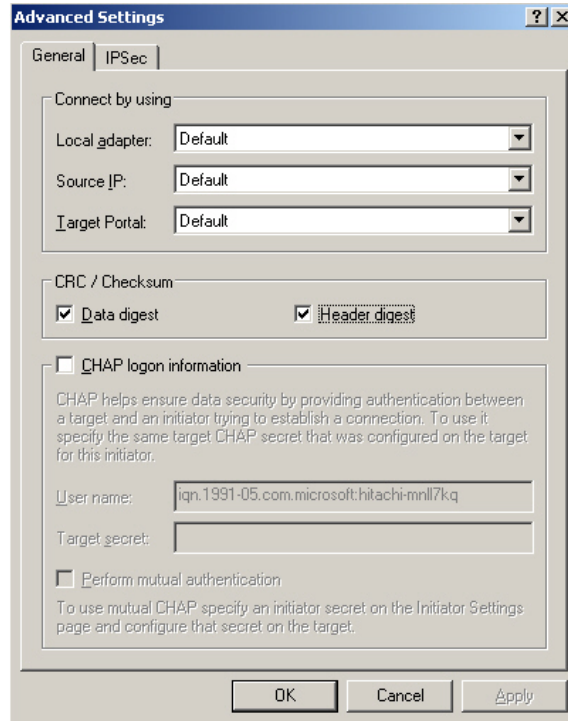

Figure A.14 Advanced Settings, General Tab
16. Under CRC /Checksum, check **Data digest** and **Header digest** (see Figure A.14).